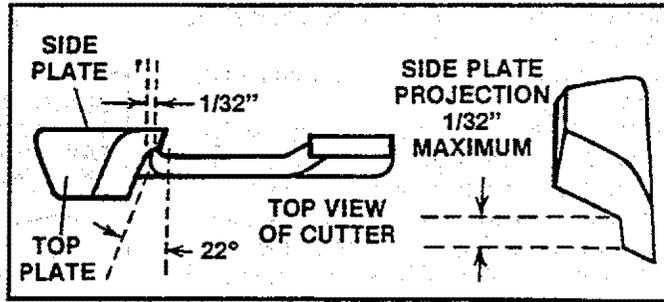

Figure 22
6. Maintain a 1/32" side plate projection. Figure 22.